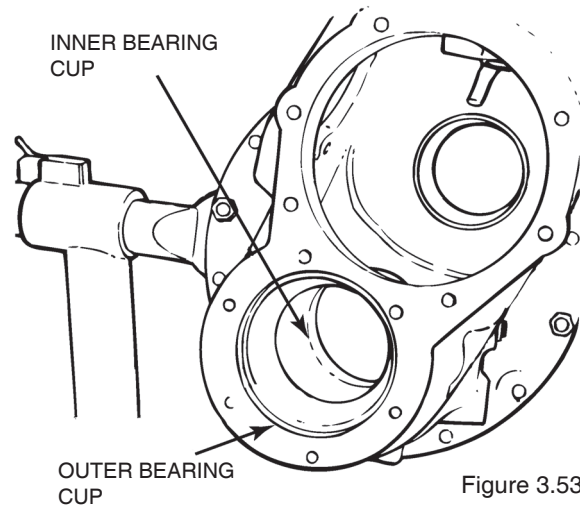

Figure 3.53
3. If necessary, remove the inner and the outer bearing cups from the cage of differential. Use a hammer and drift to remove the cups from the Cage of differential. Replace any shims that are damaged. Measure and Record the thickness of the shim Pack for reassembly. Figure 3.53.